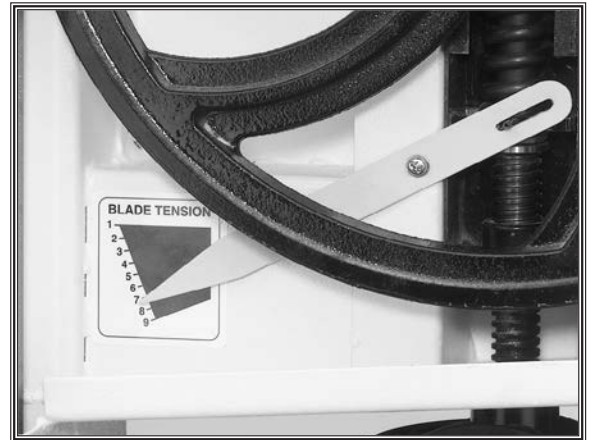

Figure 22. Blade-tension indicator.
5. Move the blade-tension lever to the tension position, and observe the blade-tension indicator shown in **Figure 22**.
6. Turn the blade-tension handwheel until the tension indicator points somewhere in the range of 5–8 as shown in **Figure 22**. These locations are the basic blade tension positions.
6. Turn the handwheel an additional quarter turn, and note the blade-tension indicator position (see **Figure 22**) for quick tensioning in the future.